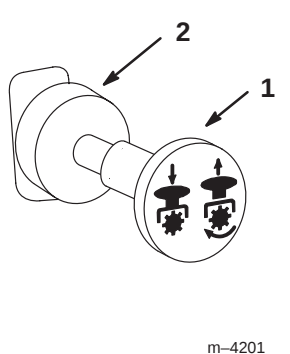

Figure 13
3. Move the PTO (power take off) to Off (Fig. 13).